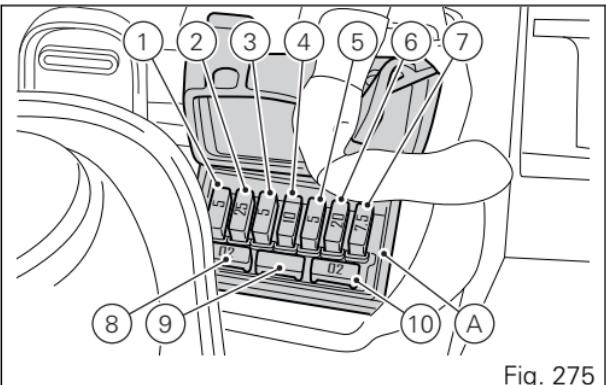
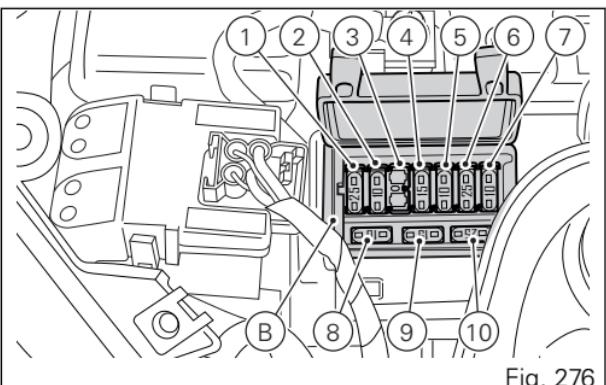

Fig. 275
Fig. 276
The front left fuse box (A, Fig. 275) and the front right one (B, Fig. 276) are located above the battery.
The main fuse (C) is located on the right side of the fuse box (B Fig. 276), on solenoid starter (D).